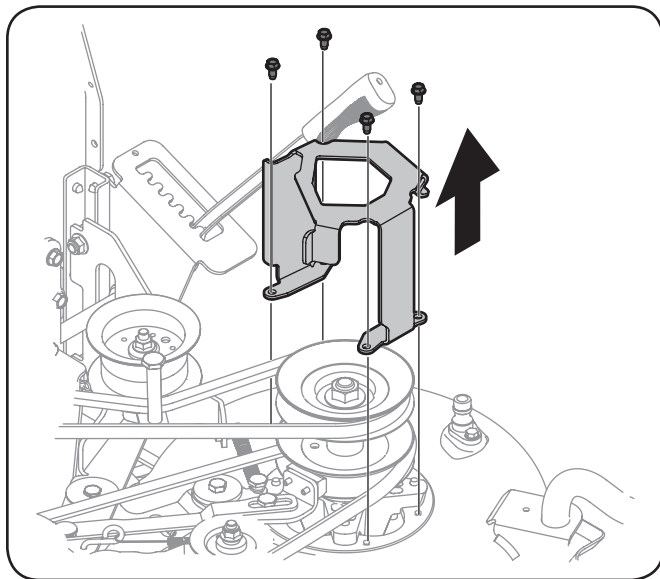

Figure 6-6
2. Remove the belt keeper shown in Figure 6-6 by removing the four hex screws that secure it.